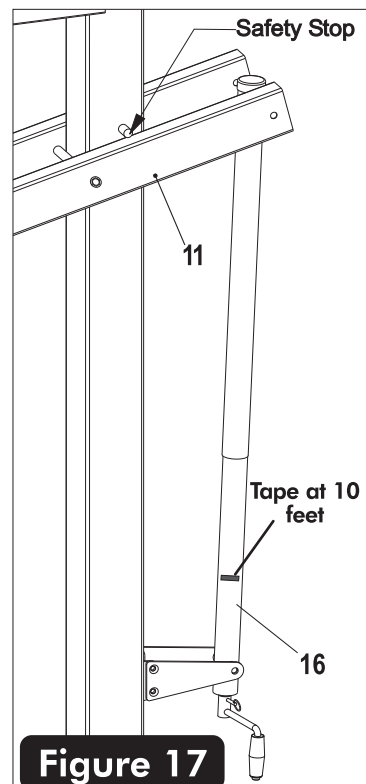

Figure 17
32. Lower backboard all the way down. Do not force actuator once backboard is in it's lowest position. See **Figure 17**.